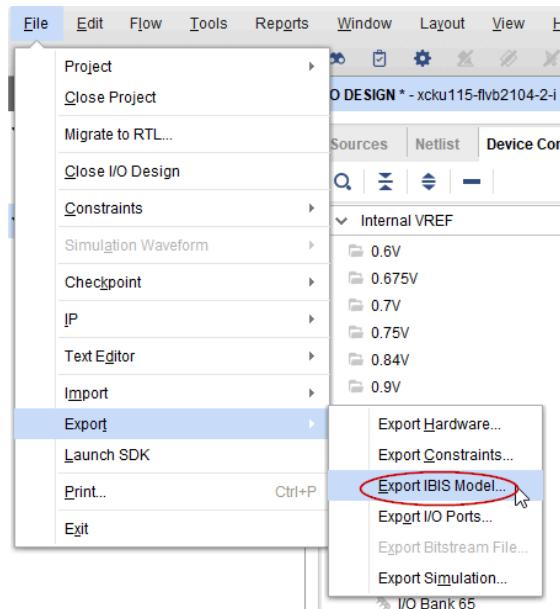

Figure 14: Export IBIS Model
- Now, the IBIS file can be exported (Figure 14).